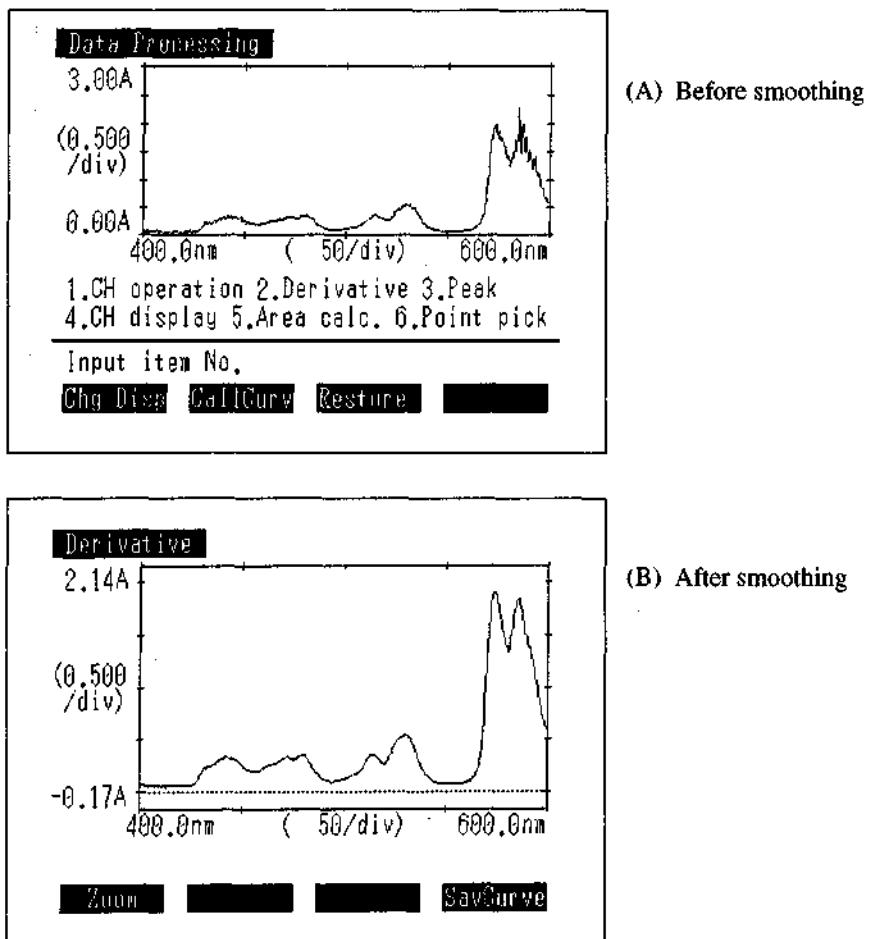

Fig. 8.20 Smoothing processing
An example of smoothing processing is illustrated below. (Figs. 8.20(A), (B))